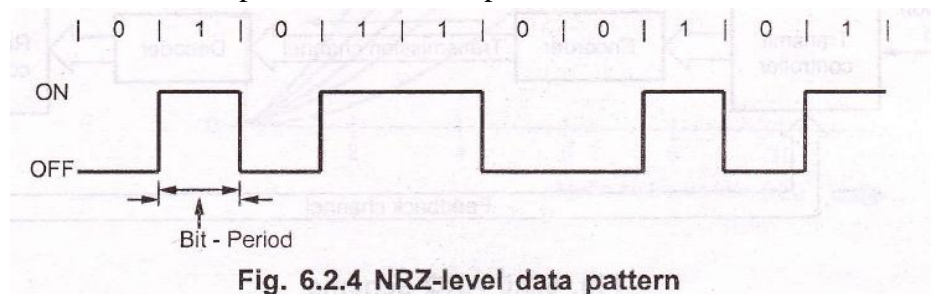

Fig. 6.2.4 NRZ-level data pattern
- When symbol '1' is to be transmitted, the signal occupies high level for full bit period. When a symbol '0' is to be transmitted, the signal has zero volts for full bit period. Fig. 6.2.4 shows example of NRZ-L data pattern.